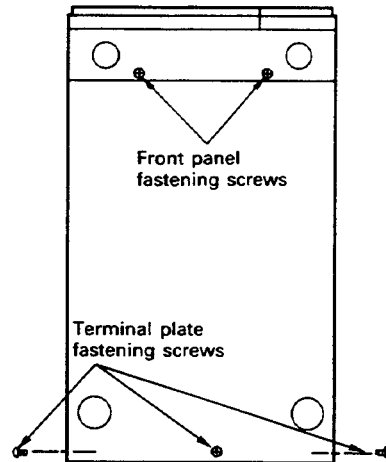

Fig. 2-3
All the parts of the video copy PCB can be checked by unscrewing two front panel fastening screws (Fig. 2-3), disconnecting two grounding wires secured by the screws and removing the front section from the chassis.
2. To check the rear side of the PCB, unscrew five screws fastening the terminal plate (Fig. 2-3), disconnect all the connectors from the PCB, remove the PCB to the rear side, and check the PCB.